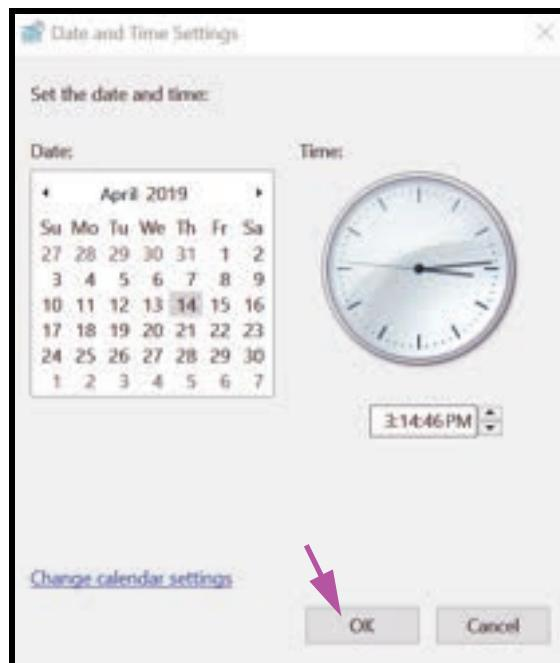

Figure 2-35. Date and Time Settings Dialog Box
2. Click the **Change Date and Time...** button. The Date and Time Settings dialog box appears. See Figure 2-35.